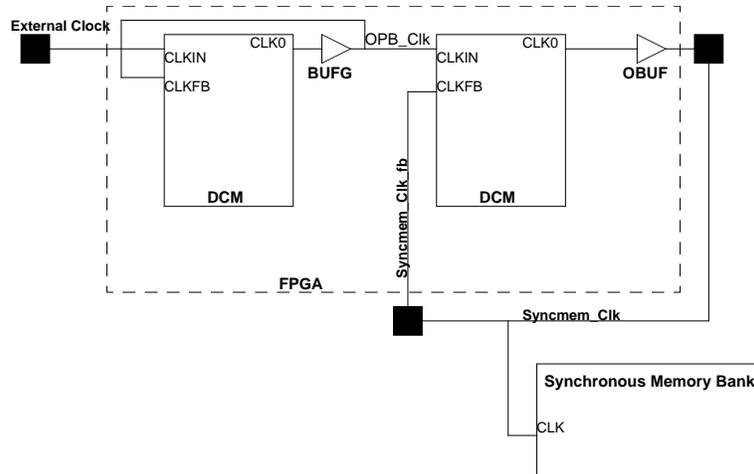

Figure 1: The clocking scheme required for external ZBT memory with clock feedback (Taken from Xilinx's OPB EMC datasheet).
2. Open the Add/Edit Cores dialog and add two instances of dcm\_module. The two DCM modules will be used to create the clocking scheme shown in Figure 1. Add the following to the ports table for each of the DCM modules: CLKIN, CLKFB, RST, DSSSEN, PSEN, CLK0, LOCKED. Set them all as internal in scope.